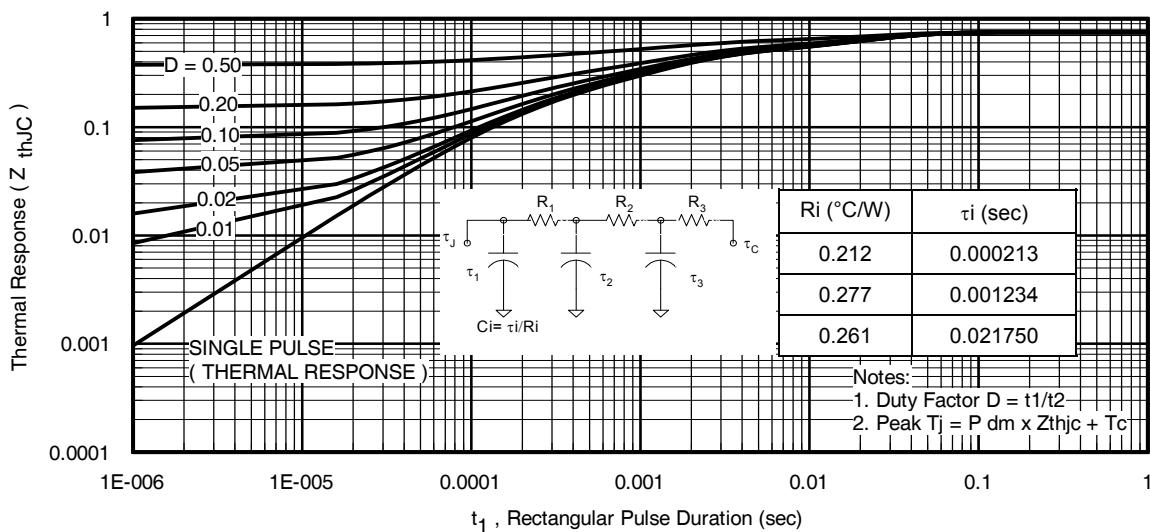
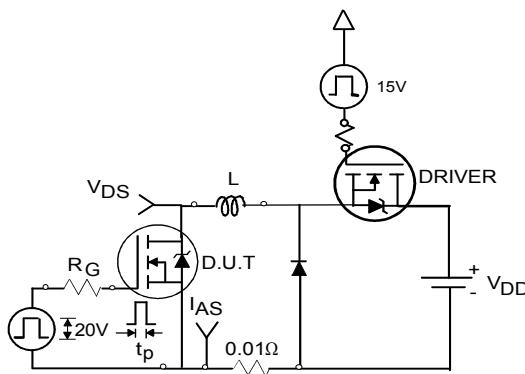

Fig 11. Maximum Effective Transient Thermal Impedance, Junction-to-Case
Fig 12a. Unclamped Inductive Test Circuit
- ① Repetitive rating; pulse width limited by max. junction temperature. (See fig.11)
- ② Limited by T_{Jmax} , starting $T_J = 25^\circ\text{C}$, $L = 0.066\text{mH}$, $R_G = 25\Omega$, $I_{\text{AS}} = 75\text{A}$, $V_{\text{GS}} = 10\text{V}$. Part not recommended for use above this value.
- ③ Pulse width $\leq 1.0\text{ms}$; duty cycle $\leq 2\%$.
- ④ $C_{\text{oss eff.}}$ is a fixed capacitance that gives the same charging time as C_{oss} while V_{DS} is rising from 0 to 80% V_{DSS} .
- ⑤ Limited by T_{Jmax} , see Fig.12a, 12b, 15, 16 for typical repetitive avalanche performance.
- ⑥ This value determined from sample failure population 100% tested to this value in production.
- ⑦ This is only applied to TO-220AB package.
- ⑧ When mounted on 1" square PCB (FR-4 or G-10 Material). For recommended footprint and soldering techniques refer to application note #AN-994
- ⑨ TO-220Pak device will have an R_{th} value of $0.65^\circ\text{C}/\text{W}$.
- ⑩ Calculated continuous current based on maximum allowable junction temperature. Bond wire current limit is 160A. Note that current limitations arising from heating of the device leads may occur with some lead mounting arrangements.
3. Equation below based on circuit and waveforms shown in Figures 12a, 12b.